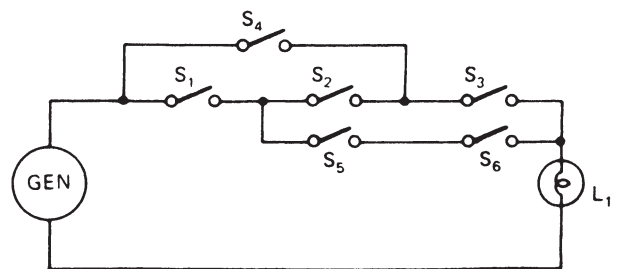

FIGURE 4-30 Switch circuit.
Consider the circuit shown in Figure 4-30. The path through the switch is normally considered to start at the left top and proceed through the switches to the lamp. Different paths and switches might be considered, but most people would follow a path from left to right. The circuit designer no doubt drew the circuit while considering paths from left to right.
- Figure 4-30 is a lamp-and-switch circuit. Which switches must be closed to light the lamp, using the least number of switches?